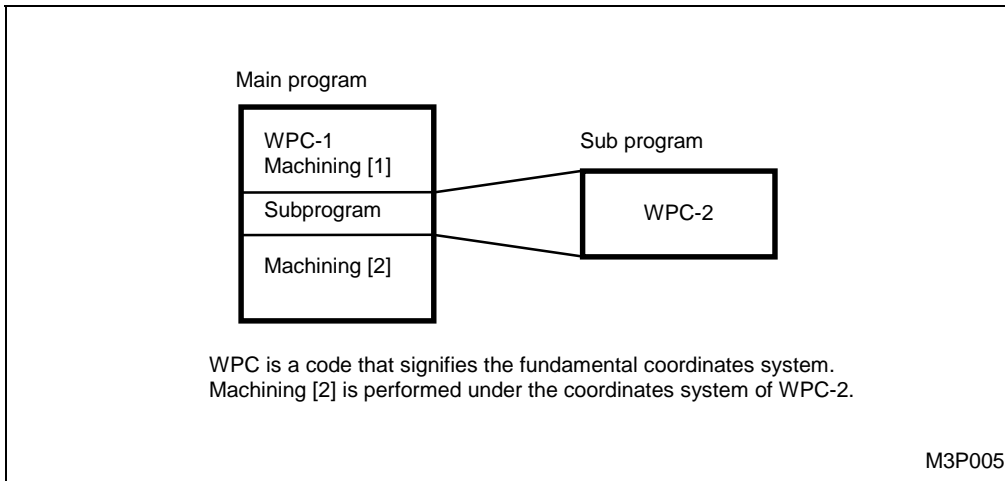

Fig. 2-5 Fundamental coordinates system after execution of subprogram
- B. The system of auxiliary coordinates is voided when a new system of fundamental coordinates is introduced. In this case, the state without a system of auxiliary coordinates is assumed. (When the system of fundamental coordinates was specified in the sub-program as shown in Figure 2-5, the return to the main program has the effect of voiding the system of auxiliary coordinates of the main program.)